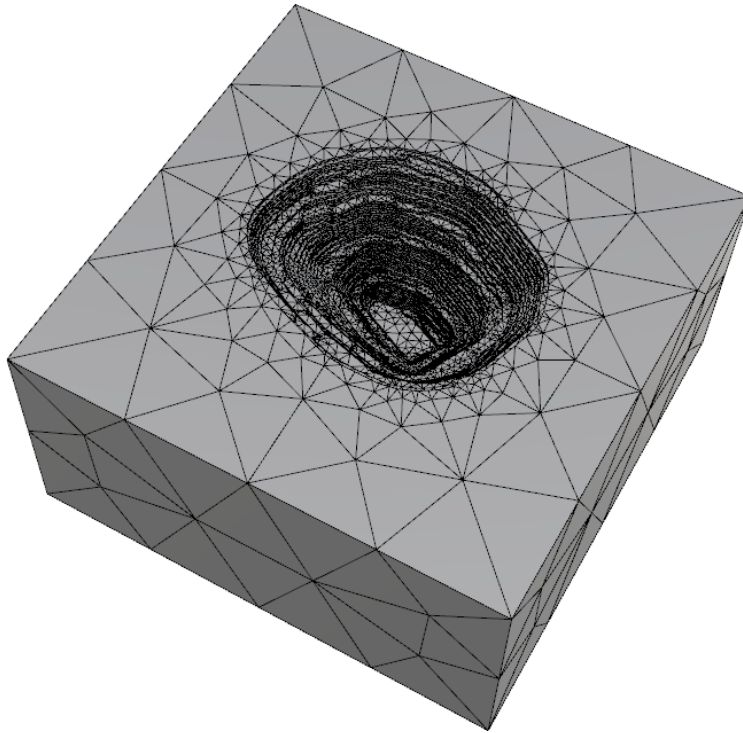

Figure 136: Triangle surface mesh generated by *Griddle*.
41. Select your *Rhino* mesh, type **_GSurf** (for the Griddle surface remesher) and remesh this surface with **Mode:Tri**, **MinEdgeLength 20** (the bench height) and **MaxGradation 2**. Leave the other values as defaults and press Enter. You should obtain a mesh similar to that shown in Figure 136.